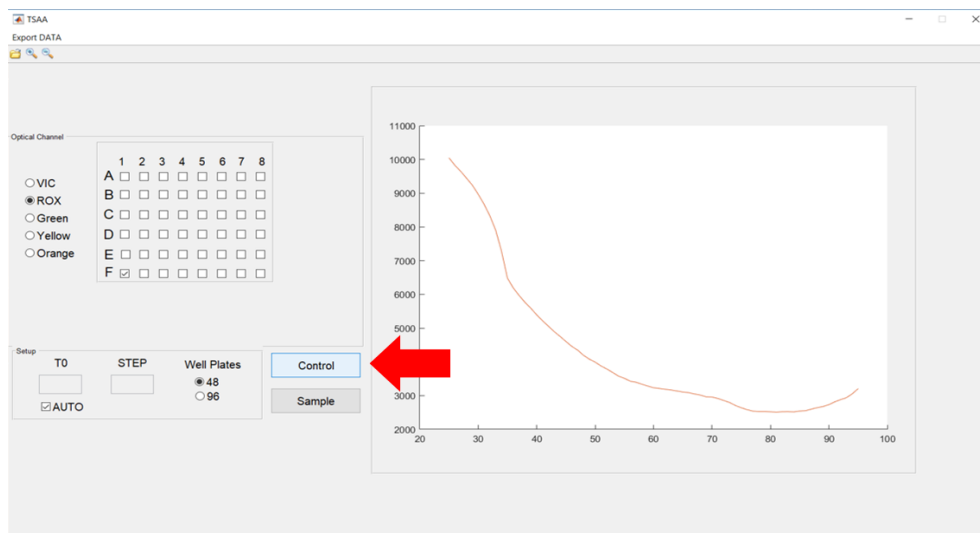

Figure 11: TSAA Panel: Control Sample
8. If you want to graph the samples, you need to check the control well and then press "Control" button(Figure 11).